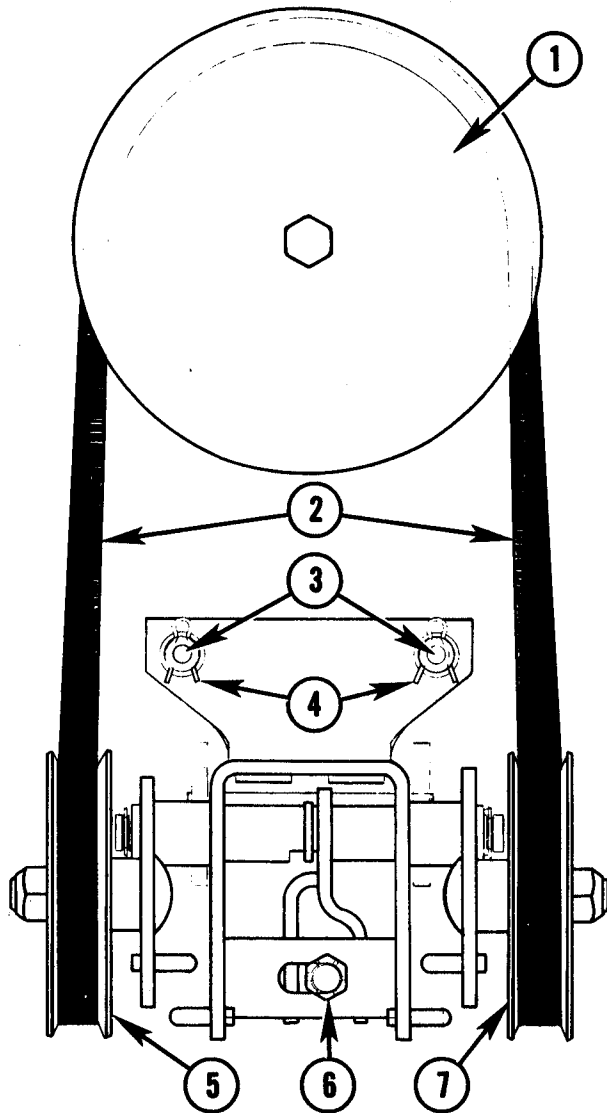
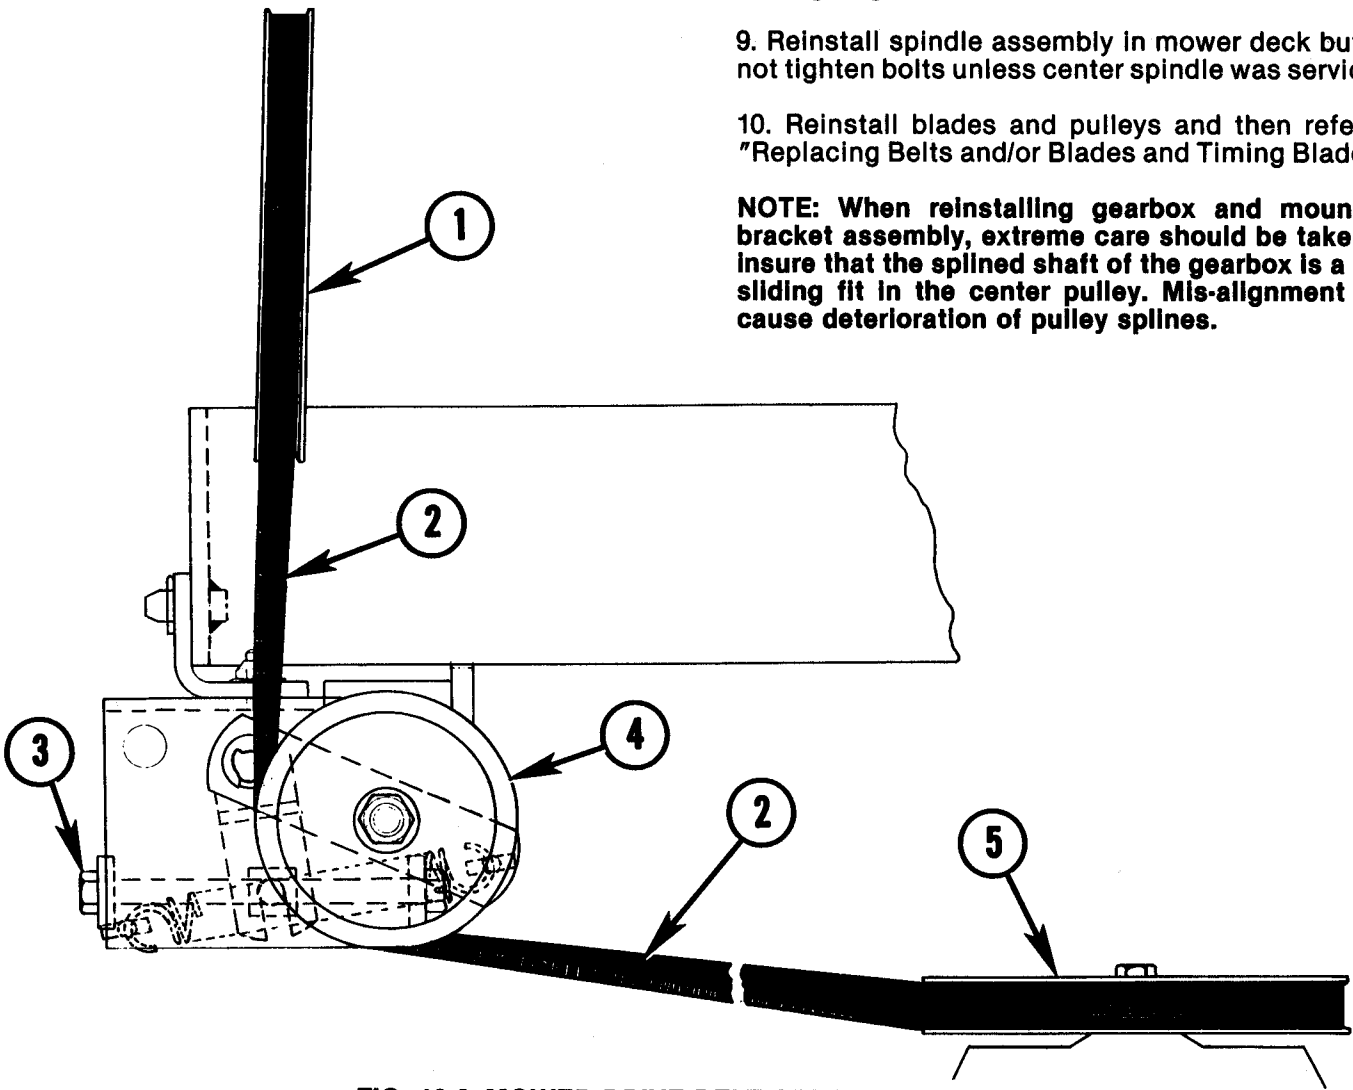

FIG. 10.5--DRIVE BELT ARRANGEMENT (FRONT)
FIG. 10.6--MOWER DRIVE BELT ARRANGEMENT
3. Push up on right-hand mule drive pulley, No. 5, Fig. 10.5, and remove belt, No. 2, from pulley.
2. With mower in lowered position, turn adjusting bolt, No. 6, Fig. 10.5, clockwise to adjust belt tension. When belt, No. 2, is properly tensioned, pulleys, Nos. 5 and 7, should be approximately same height from ground.
6. Remove mule drive unit by removing 2 spring clips, see Fig. 10.5.
7. Place mower drive belt over implement drive clutch pulley, see Fig. 10.5.
9. Rotate bolt, No. 6, Fig. 10.5, counterclockwise and install belt, No. 2, Fig. 10.5, under left pulley, No. 7, Fig. 10.5, then place belt around mower clutch pulley, No. 5, Fig. 10.6.
10. Raise spring loaded pulley, No. 5, Fig. 10.5, and install belt under it as shown.
11. Rotate bolt, No. 6, Fig. 10.5, clockwise until both mule drive pulleys are the same height.
2. Remove gearbox from mower, Fig. 10.6.